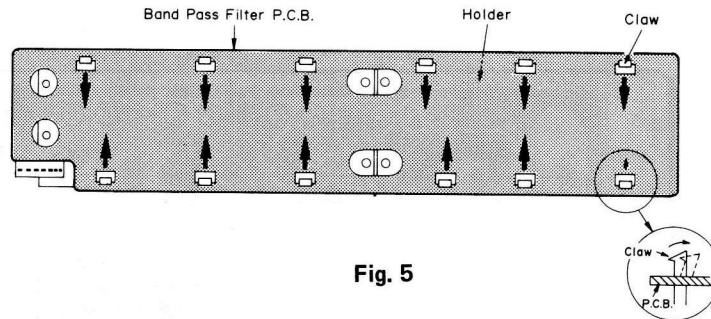

Fig. 5
5. Bend the 12 claws shown by arrows (→) as in Fig. 5, then separate the P.C.B. from the P.C.B. holder.